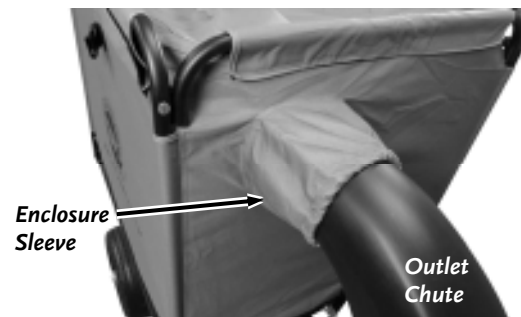

Figure 43
25. Slide the Enclosure Sleeve over the Outlet Chute (Figure 43).